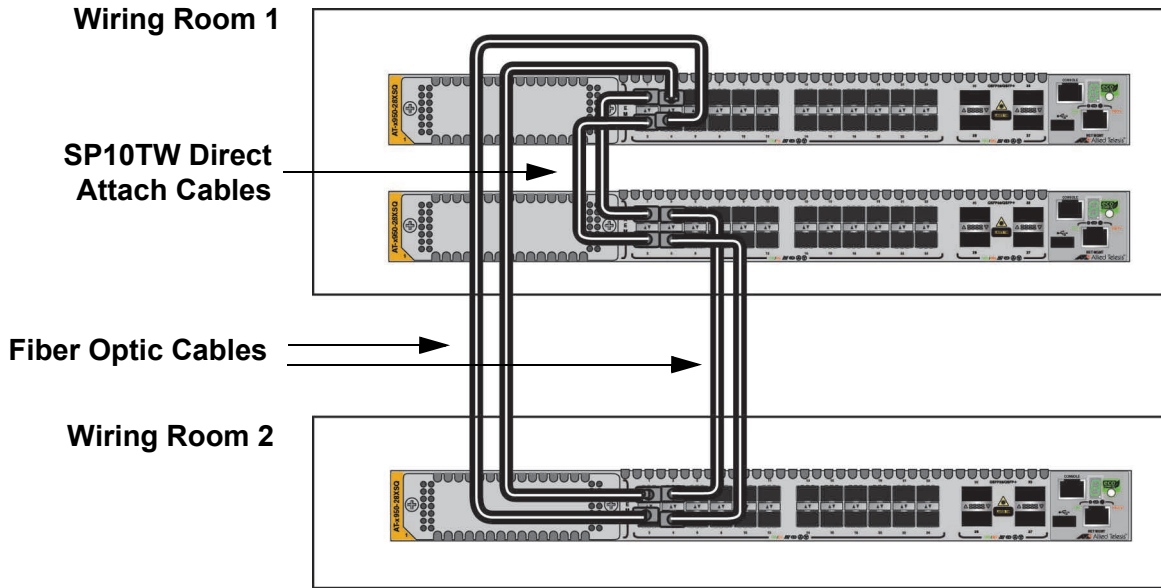

Figure 42. Unsupported Trunk with Mixed Cables
- ❑ The cables in a trunk must be all the same type: They can be all fiber optic cables, direct attach cables, or twisted pair cables. Trunks cannot contain different types of cables. The trunk in Figure 42 on page 92 is unsupported because it has both fiber optic and direct attach cables.